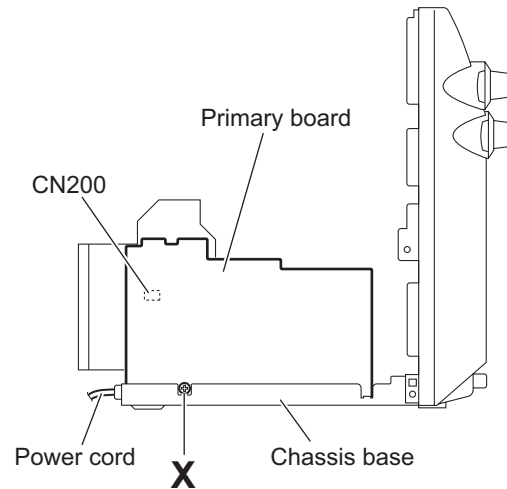

Fig.25
- (8) From the forward side of the primary board, disconnect the power cord from the connector CN200. (See Fig.25.)